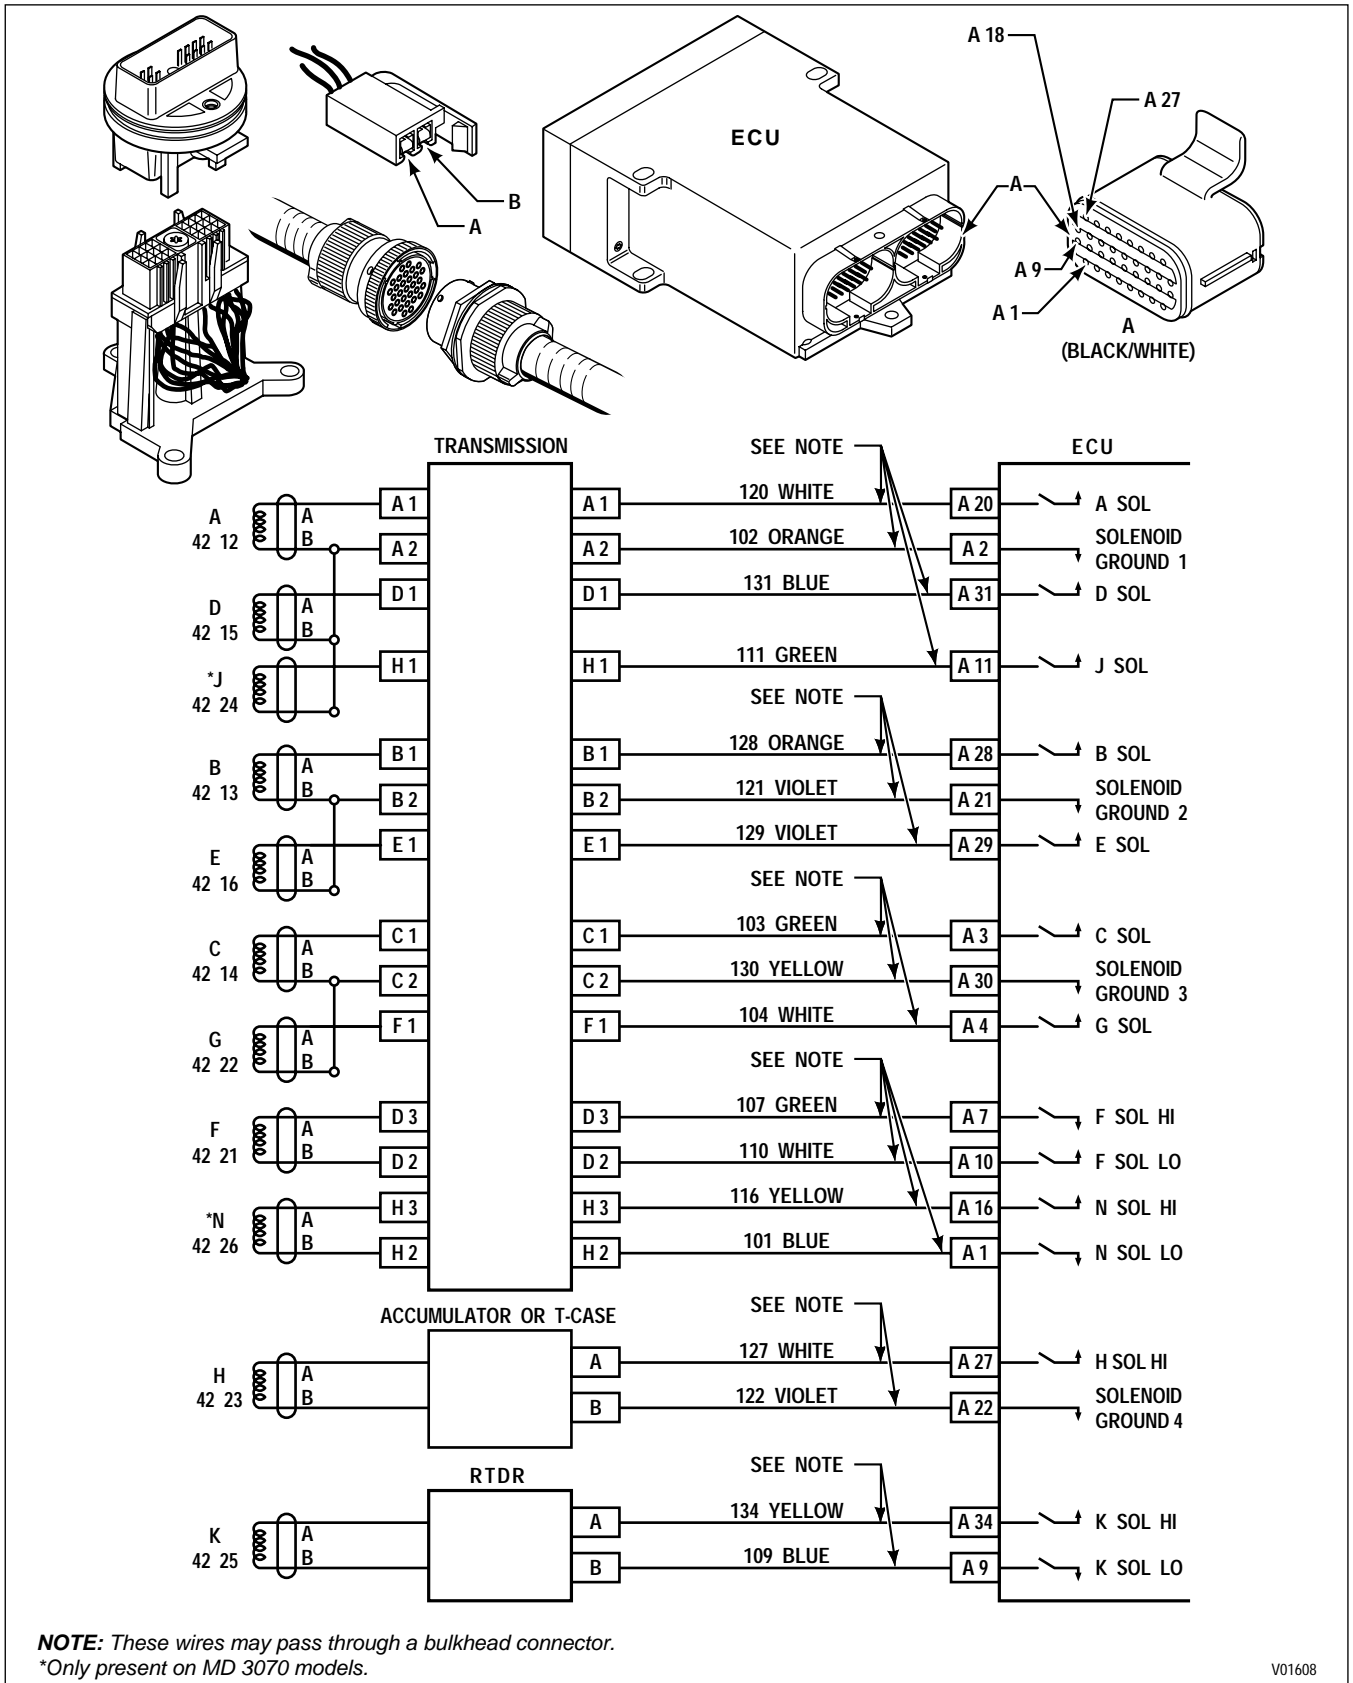

Figure 6-24. Code 42 Schematic Drawing (Units Produced Prior To 9/94)
*(Figures 6-24, 6-25)*
**CODE 42 XX — SHORT-TO-BATTERY IN SOLENOID CIRCUIT***(Figures 6-24, 6-25)*